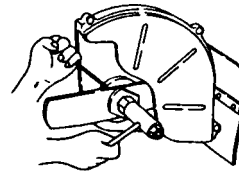

Fig. 14
- Insert the locking bar into the hole of the cutter holder and gear case by lining up each hole. (Fig. 14)